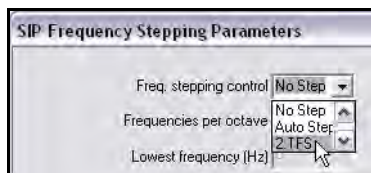

Fig. 3-11: Selecting a default schedule (.tfs) file.
- From the **Freq. stepping control** list, select **No Step**, **Auto Step**, or the name of the file you want to be loaded when the TXU-30 starts up. (See Fig. 3-11.)